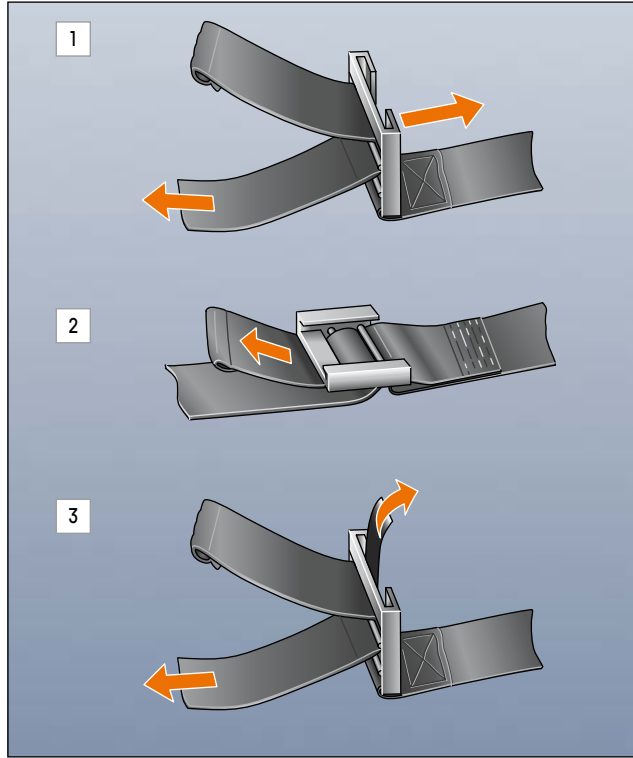

FIG.54 QUICK ADJUSTMENT SYSTEM
- ▶ To lengthen the belt, turn the adjuster approx. 90° and pull it or the belt you want to lengthen in the direction of the arrow 1 (» Fig.54).
- ▶ If the quick adjusters are fitted with a release strap 3 (» Fig.54), you can lengthen the belt by simply pulling up the release strap.
- ▶ To tighten the belt, pull the overhanging webbing in the direction of the arrow 2 (» Fig.54).